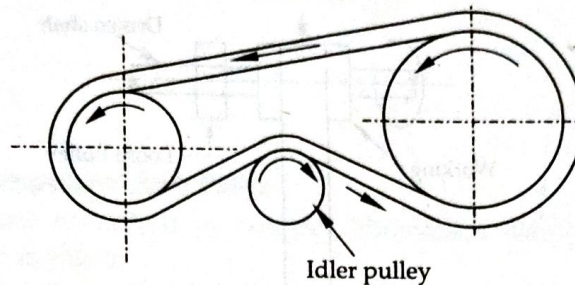

Fig. 8 Belt drive with an idler pulley
4. **Belt drive with idler pulley:** Figure 8 shows the belt drive with idler pulleys. This drive is used with shafts arranged parallel and when an open belt drive cannot be used due to small angle of contact on the smaller pulley. This type of drive is provided to obtain high velocity ratio and when the required belt tension cannot be obtained by other means.